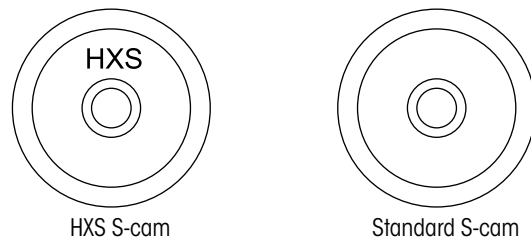

Figure 38: Identifying the type of brake S-cam
**IMPORTANT: DO NOT** install HXS brake shoes in a brake assembly with the standard S-cam. HXS brake shoes must be installed with an HXS brake S-cam. The spline end of the HXS brake S-cam will be engraved with the letters "HXS" to identify it as an HXS brake S-cam (Figure 38 on page 29). The HXS S-cam has a different profile to accommodate the thicker HXS brake shoe linings. If necessary, change the brake S-cam to an HXS model if installing HXS brake shoes.